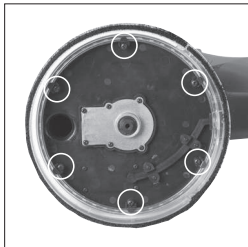

Fig. 15
- Use a cross-head screwdriver and remove the six (6) self tapping screws and the special fixing clips. (**Fig. 15**) that
- During installation of a new Brush Skirt take care to not over tighten the six (6) self tapping screws. These should be firmly tightened but be careful not to strip the threads within the tapped holes.